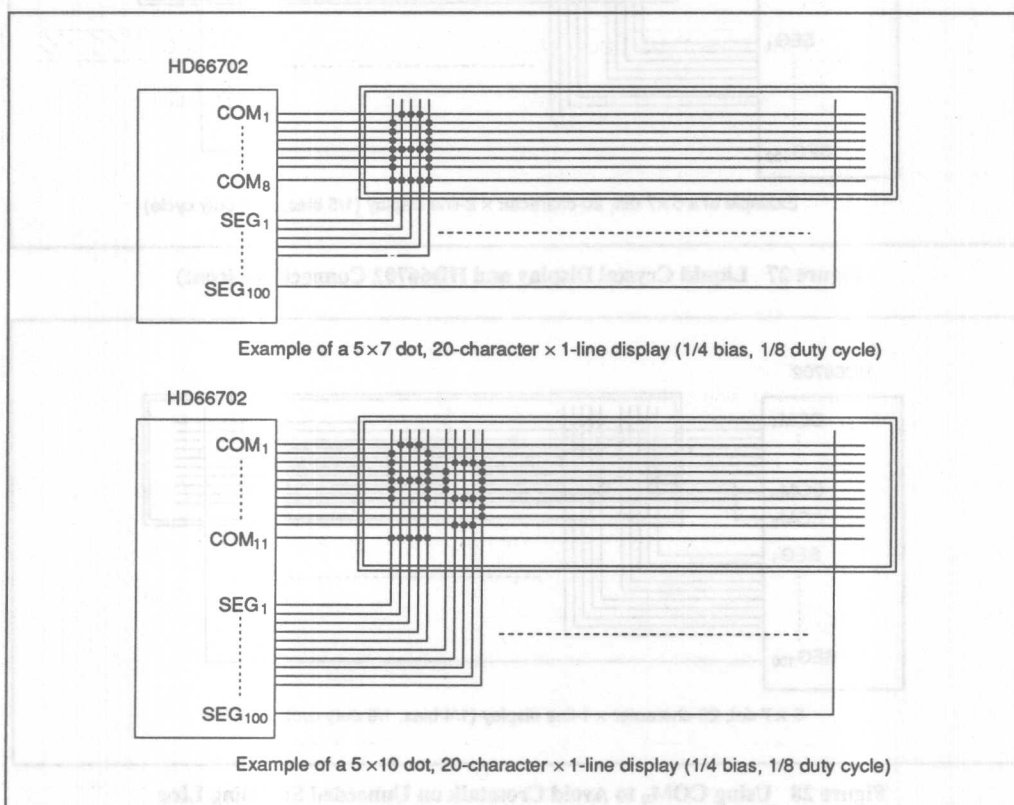

Figure 26 Liquid Crystal Display and HD66702 Connections
**Connection to HD66702 and Liquid Crystal Display:** See figure 26 for the connection examples.
The examples in figure 26 have unused common signal pins, which always output non-